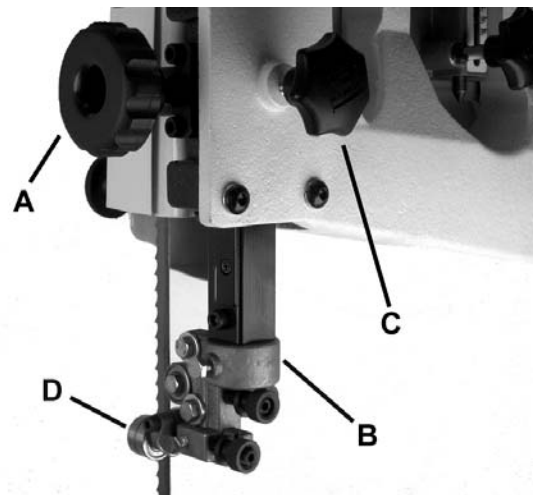
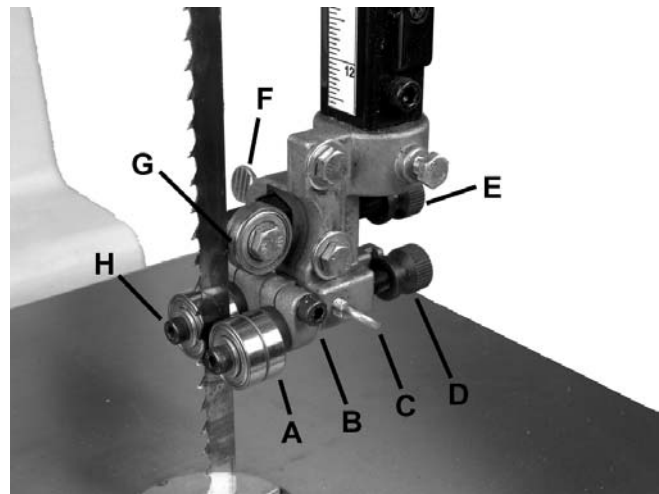

Figure 10
Figure 11
2. Loosen lock knob (C, Fig. 10) and raise or lower upper blade guide assembly (B, Fig. 10) by turning knob (A, Fig. 10) to just above the material being cut.
3. Tighten lock knob. Make sure blade guide bearings (D, Fig. 10) are still aligned next to the blade. If adjustment is necessary, review “Adjusting Upper Blade Guides and Thrust Bearings” section of manual.
3. Loosen thumb screw (F, Fig. 11) and turn knurled knob (E, Fig. 11) to move the thrust bearing (G, Fig. 10) in or out until the bearing is 1/64" behind blade.
4. Tighten thumb screw (F, Fig. 11).
5. Loosen thumb screw (C, Fig. 11) and turn knurled knob (D, Fig. 11) to move the guide block bracket in or out until the front edge of the guide bearings are just behind the "gullets" of the saw teeth.
6. Tighten thumb screw (C, Fig. 11).
7. Loosen locking bolt (B, Fig. 11) and rotate guide bearings (A Fig 11) using cam (H, Fig. 11) with provided 4mm hex wrench as close to the blade as possible without pinching it.
8. Tighten locking bolt (B, Fig. 11).